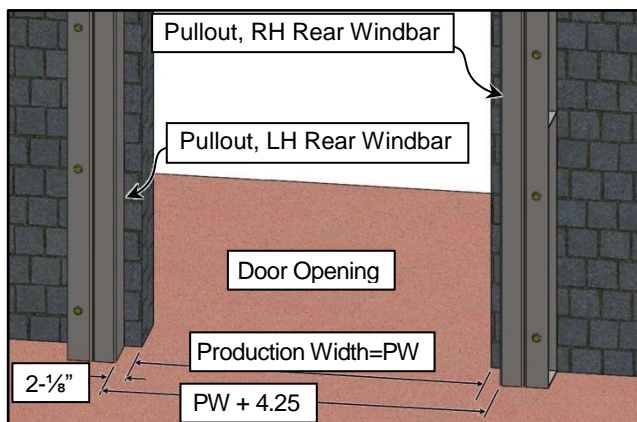

Figure 60
1. Confirm the side column pullouts are set level, plumb, square, and positioned per the dimension specifications. (See Figure 60)